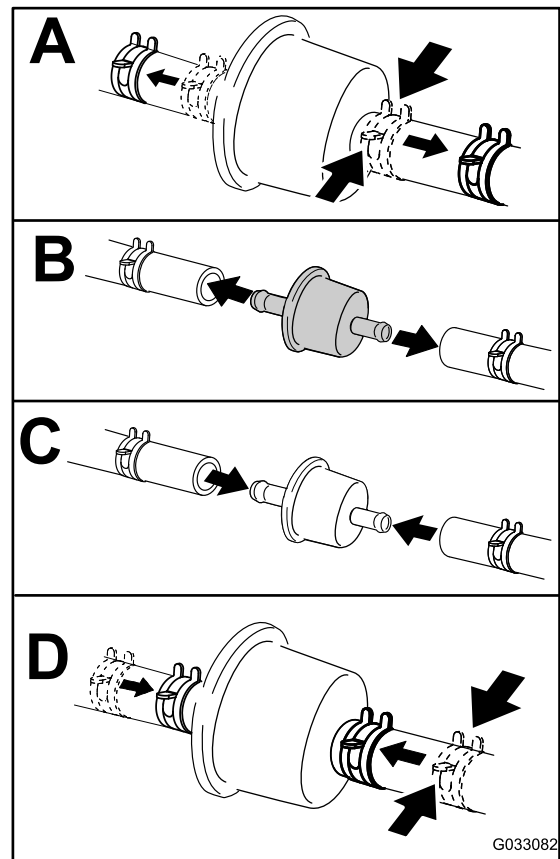

Figure 50
4. Replace the fuel filter (Figure 50).